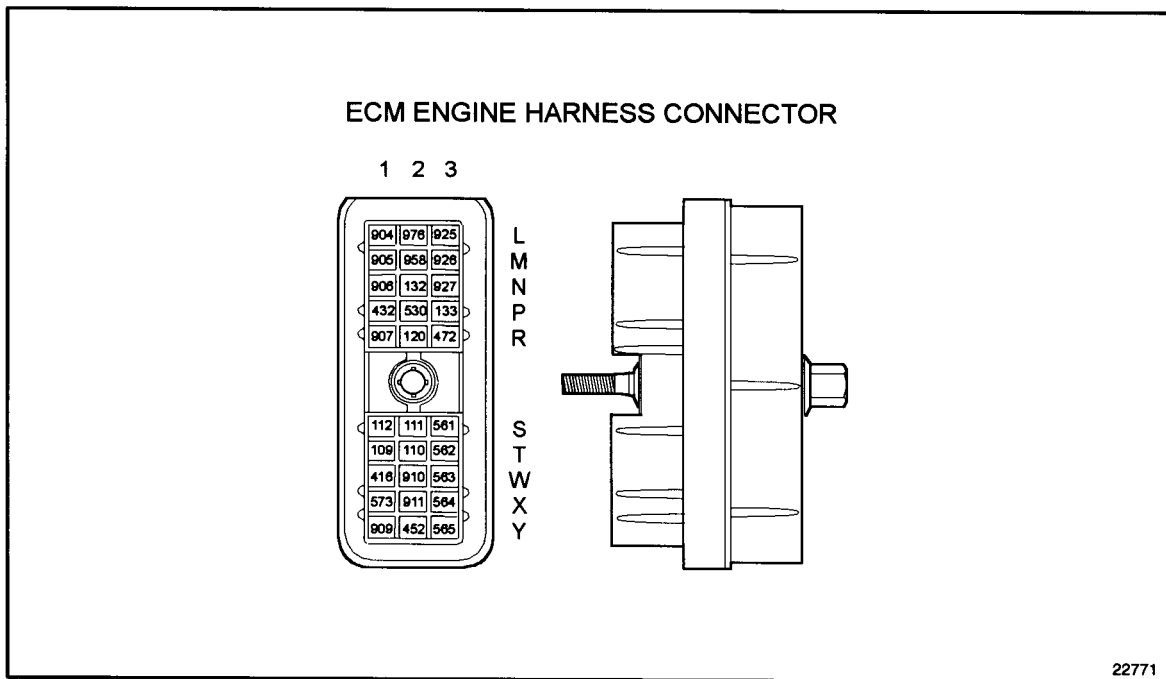

Figure 15-6 ECM Engine Harness Connector
3. Measure resistance between sockets R2, (#120) and Y2 (#452) on the engine harness connector. See Figure 15-6.